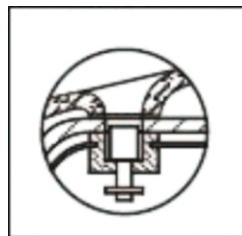

Figure 16
During this time cooking continues so it is recommended for certain cuts of meats, soups, rice, and some desserts. When pressure has fully released, the Float Valve (4) will drop (Figure 16) and the lid will unlock to open. As a safety feature, the lid will not